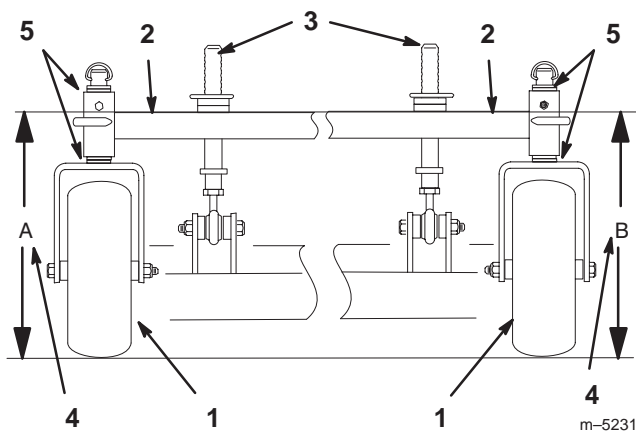

Figure 48
3. Measure carrier frame height at location “A” (Fig. 48).
4. Measure carrier frame height at location “B” (Fig. 48).